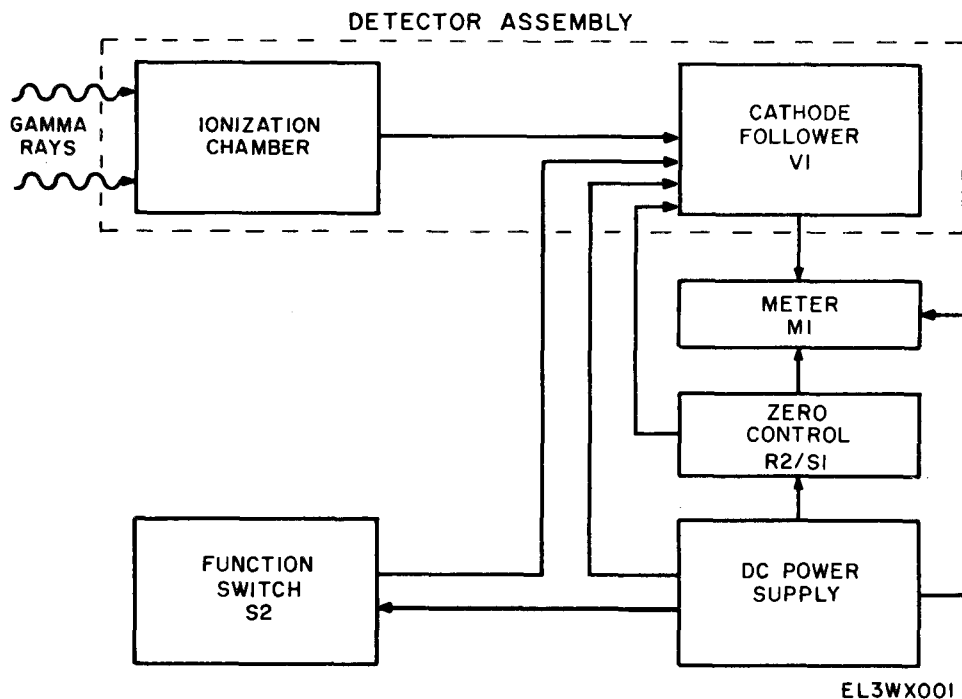

Figure 2-1. Radiacmeter, block diagram.
Radiacmeter IM-174A/PD is a portable, tactical survey meter which is used to detect gamma radiation dose rates of from 1 to 500 roentgens per hour (rad/hr)¹. The block diagram (fig. 2-1) of the radiacmeter is discussed below.
a. The radiacmeter block diagram consists of the six blocks as shown in figure 2-1. The ionization chamber and the cathode follower VI are physically contained in the detector assembly. Four other blocks include the meter, zero control, dc power supply, and the function switch S2.